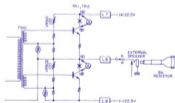

Fig. 7-4
4. ADJUSTMENT OF D.C. BIAS CURRENT OF POWER OUTPUT TRANSISTORS WITH NO INPUT SIGNAL (SEE FIG. 7-4)